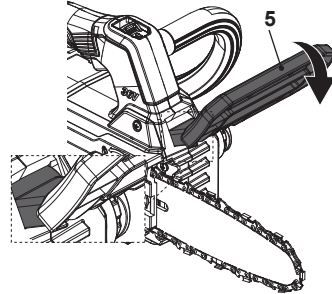

Fig. 17: Engage the chain brake
**Engage the chain brake:** When the chain brake lever (5) is in the engaged position, the saw chain is stopped as soon as the chain brake is activated (Fig. 17).